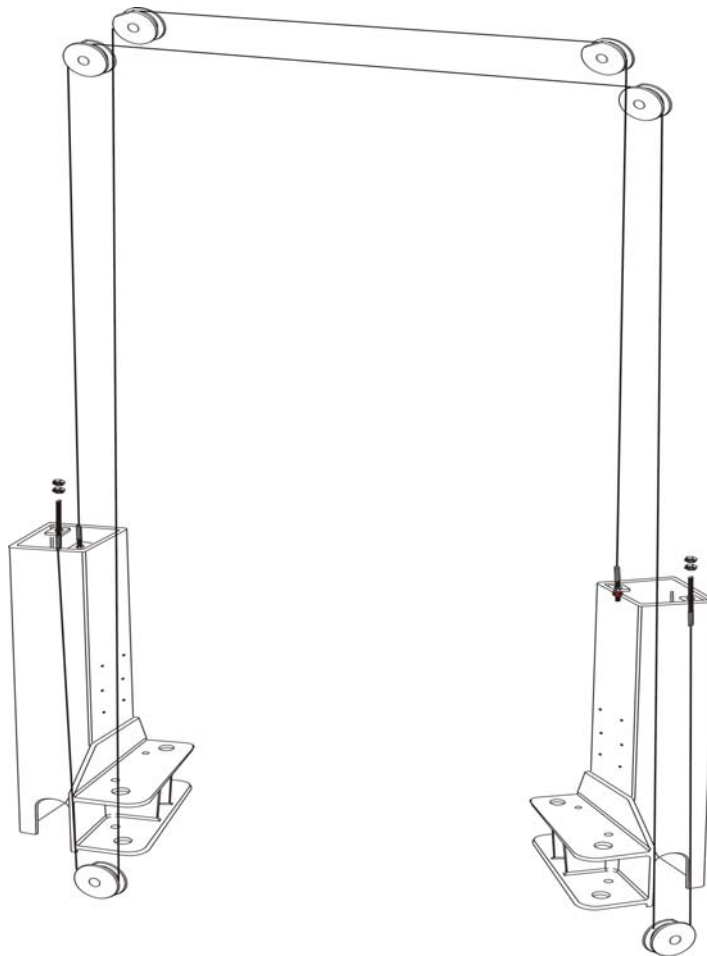

Fig.13a
- Raise the two carriages to the safety locking position; make sure the two carriages are of the same height from ground. for TLT235SC、TLT240SC、TLT235SC (U) models, route the steel cables as Fig. 13a